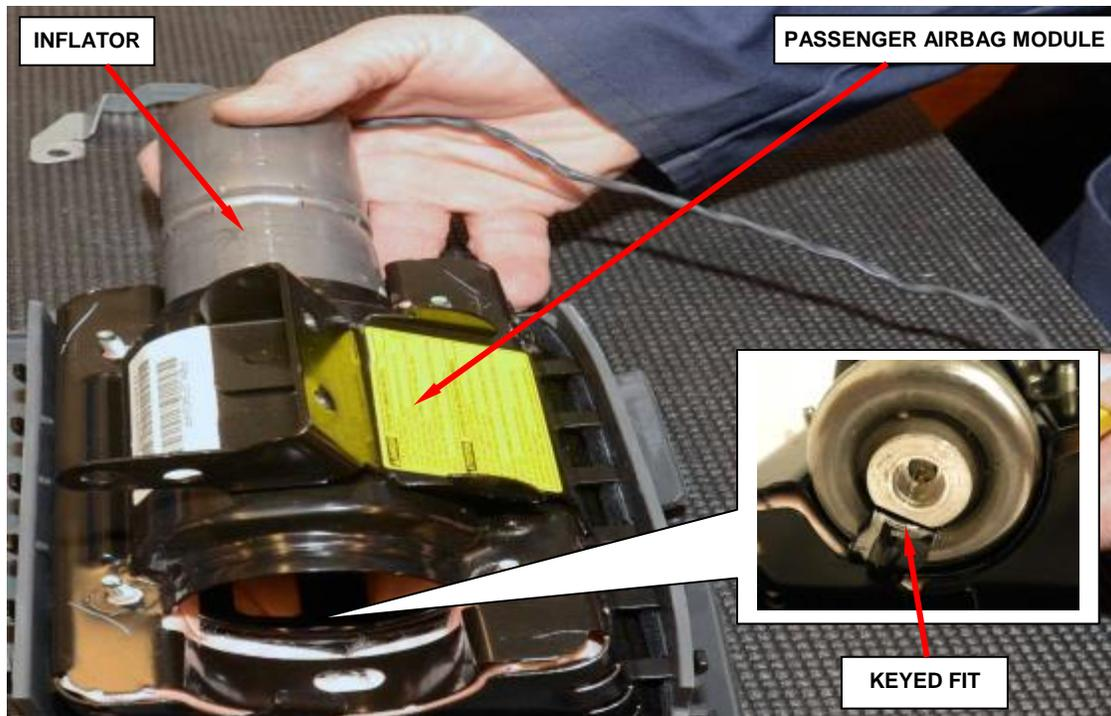

Figure 46 – Passenger Airbag Inflator to Housing
- f. Slide the inflator out of the passenger airbag module (Figure 46).
- g. Slide the new inflator into the passenger airbag module (Figure 46).
NOTE: The inflator is keyed to fit into the housing (Figure 46).